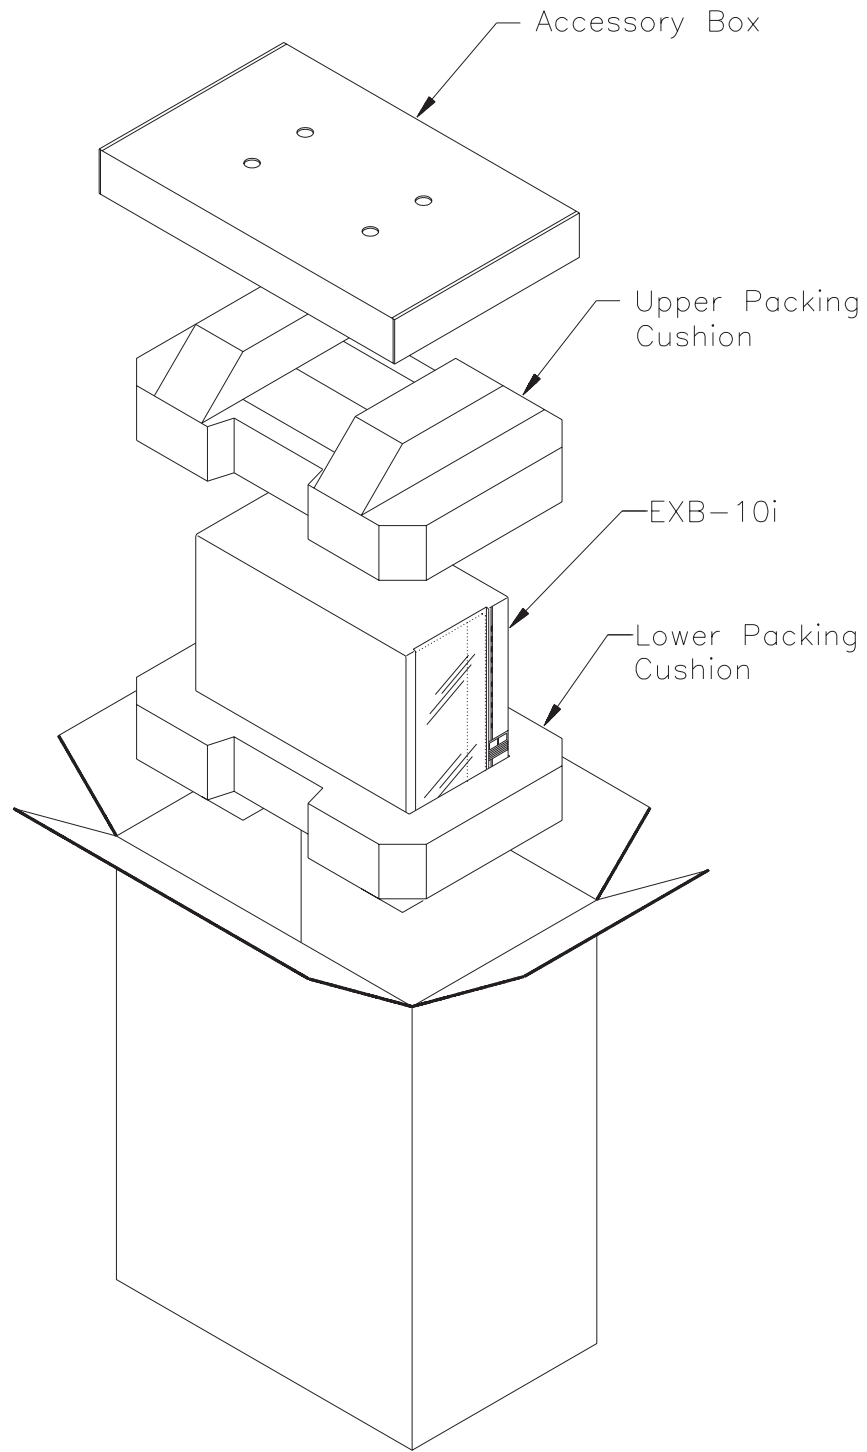

Figure 6-3 Packing the EXB-10i
2. Place one packing cushion in the bottom of the box, with the fitted space for the EXB-10i facing up. (Figure 6-3 on the next page shows how the EXB-10i and the packing materials fit in the box.)